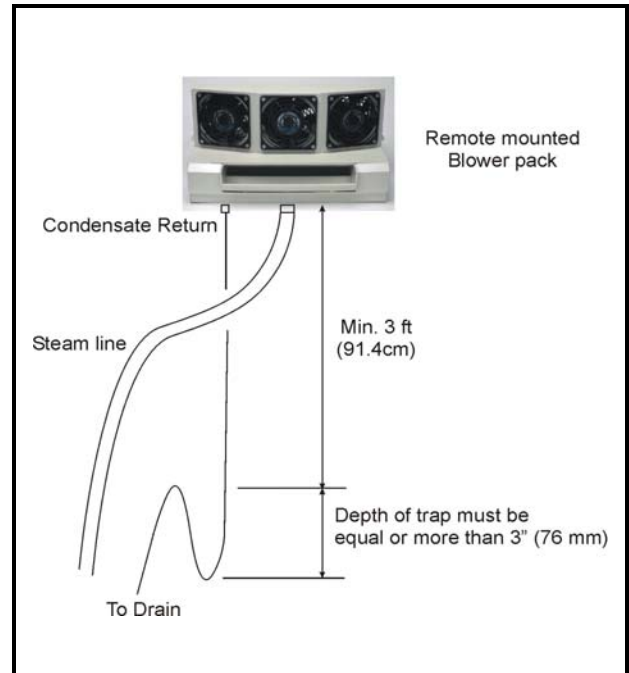

Figure 6. Condensate Return Line Trap
| Figure 6. Condensate Return Line Trap | 4 |
- (1) NORTEC blower packs have built-in connections for draining off condensate. These condensate lines must be connected to the nearest floor drain, back to the unit (NHTC & NHPC, NHRS only) or a condensate pump when using short condensate runs.
- (2) Always incorporate a trap in routing of condensate return lines. Condensate that accumulates in trap will prevent possibility of steam escaping. Depth of the trap must be equal or more than 3" (76 mm) See Figure 6 Condensate Return Line Trap.
- (3) Ensure the trap is at least 3 feet (1 m) below the blower pack and as close to the floor drain as possible.